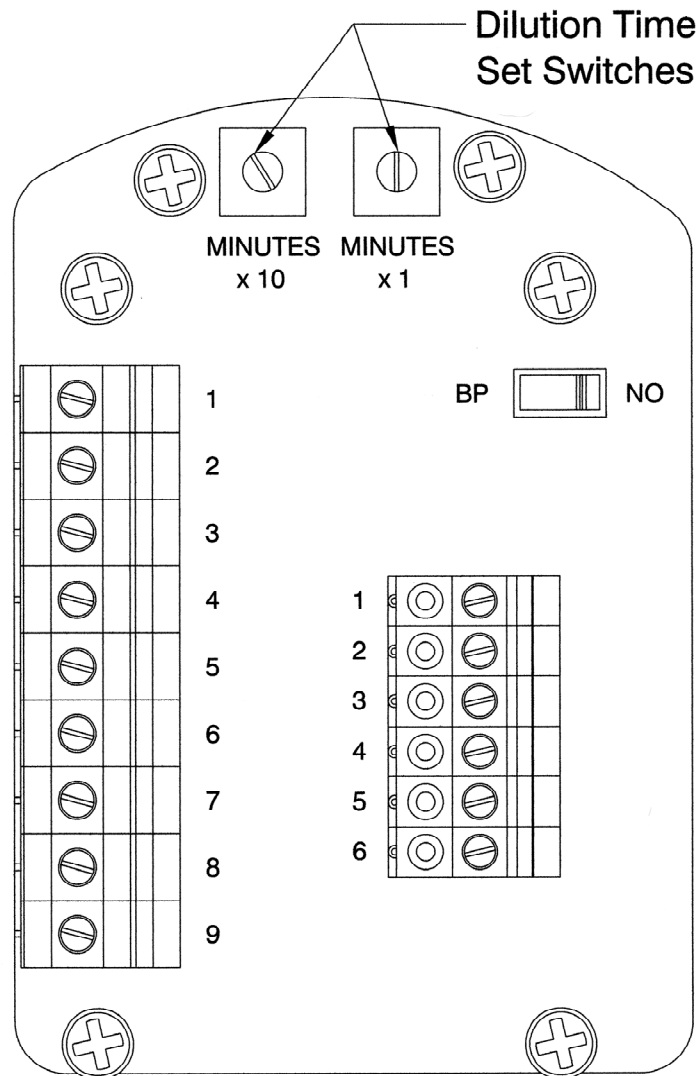

Figure 2
With cover removed from housing to access the TRYCLOPS X – Purge Controller, XP Version set automatic dilution time cycle to least five (5) times the volume of free space in the electronics enclosure is exchanged before power is automatically applied to the electrical equipment from the TRYCLOPS X – Purge Controller, XP Version. ***Refer to Figure 2 for location and details of dilution time switches in TRYCLOPS X – Purge Controller, XP Version.***